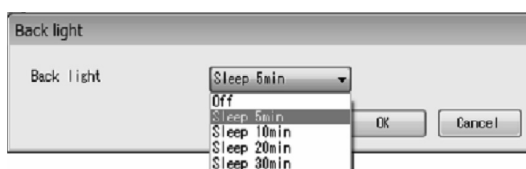

Fig.89
- ③ Click the triangle on the right side of "Back light" as shown in Fig. 89, and select the time to set from the drop-down list.